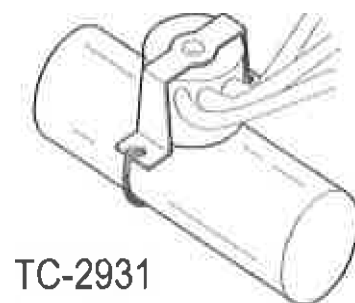

Figure 1
4. Wrap the spring around the pipe and hook the other end of the spring in the other flange hole. See Figure 1.